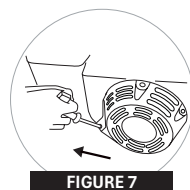

FIGURE 7
- HOLD THE STARTER HANDLE AND PULL LIGHTLY UNTIL RESISTANCE IS FELT AND THEN PULL FIRMLY AND QUICKLY;(**FIGURE 7**)